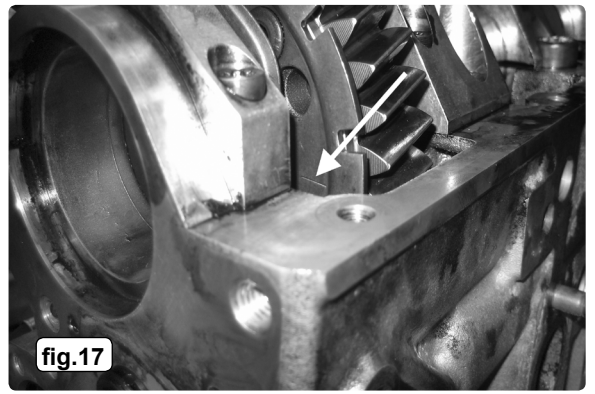

fig.17
3.3.16. Position the camshaft gear wheel onto the camshaft ensuring that the marking arrow on the sender wheel aligns with the upper edge of the cylinder head sealing surface (fig.17).